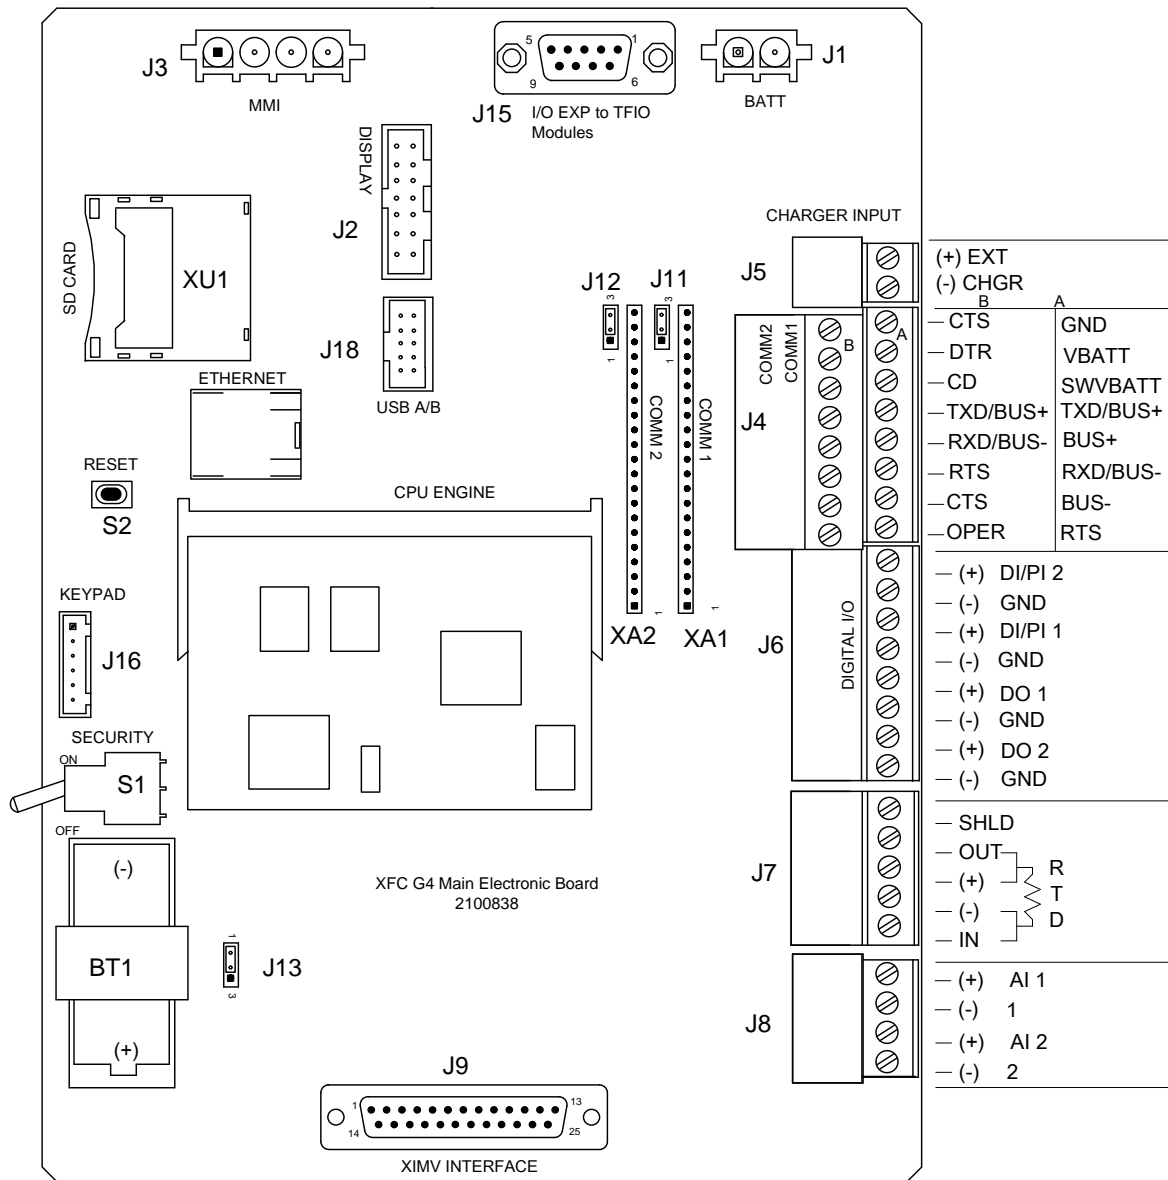

Figure 98: XFCG4 Main Electronic Board
2. Check for a poor cable connection in the cable between the circuit board and the J1 battery pack and the J5 charging source (Figure 98:).
5. Check the solar panel wiring to be certain it is correctly connected to the associated J5 charger input termination block (Figure 98:).